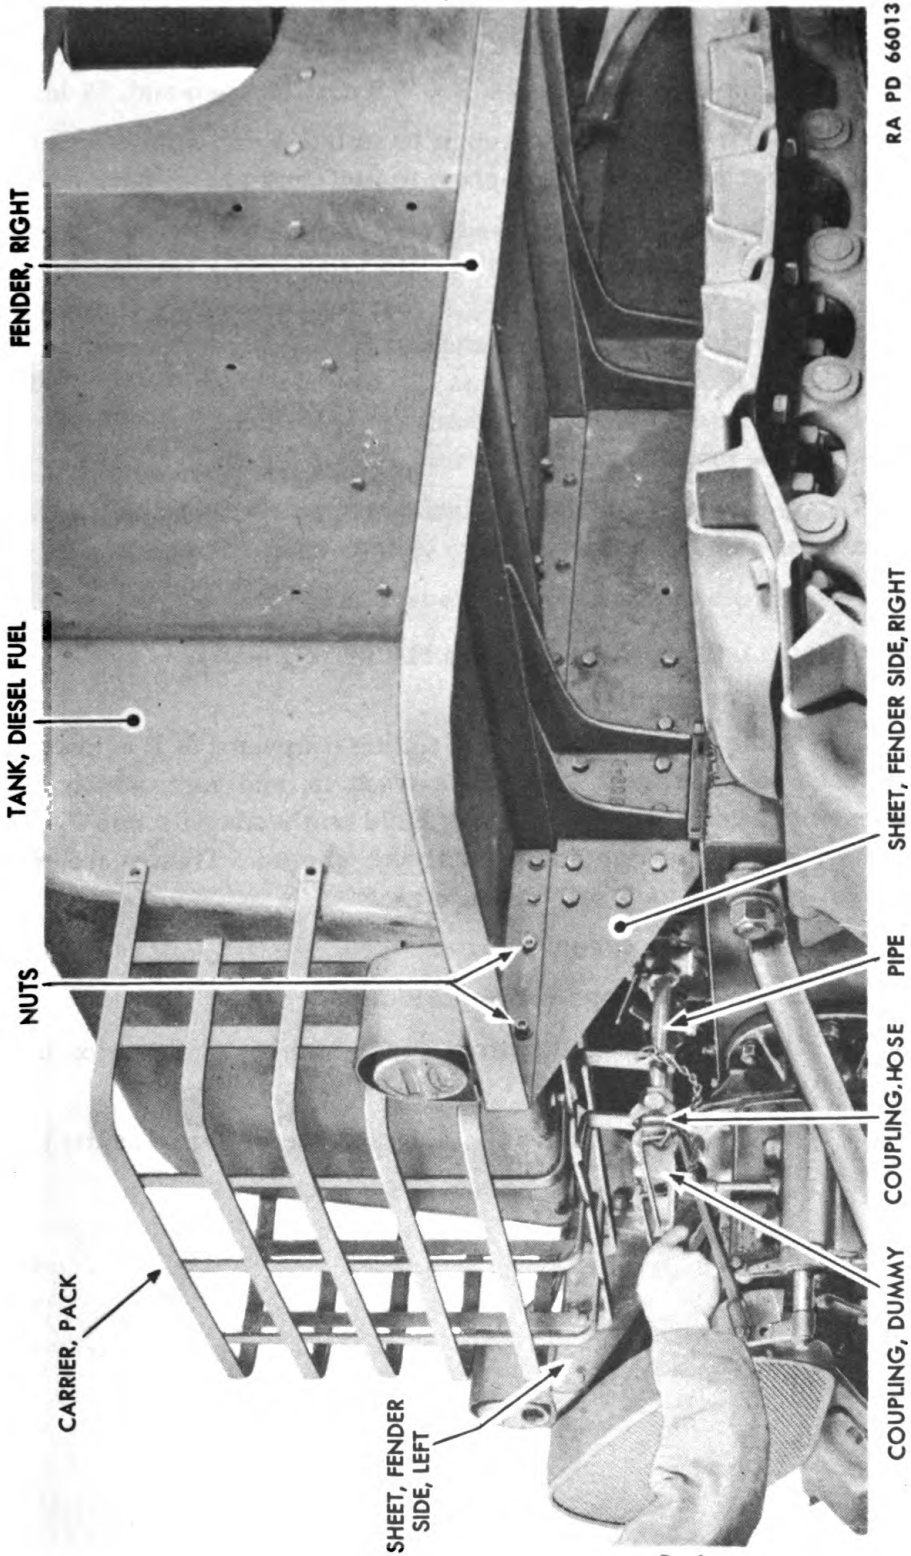

Figure 199 — Pack Carrier Installation
(21) INSTALL PACK CARRIER (fig. 199).